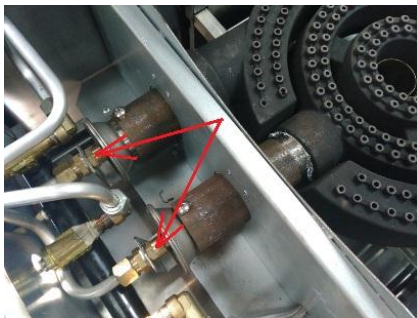

Fig.8
2. As **Fig.8** show, screw out the Nat. gas orifice [#32(ϕ 3.0mm)] counter-clockwise, then screw in the LP gas orifice [#43(ϕ 2.3mm)] clockwise.